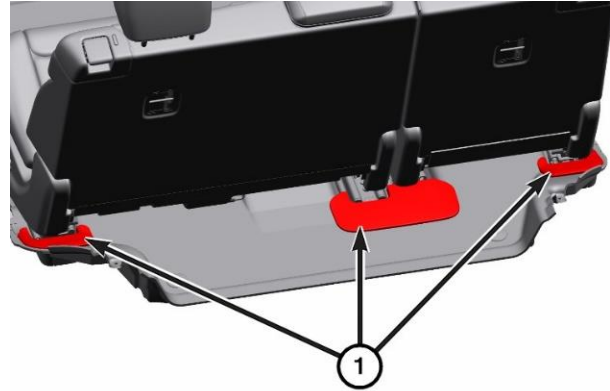

Figure 14 – Seat Track Trim Covers
7. Using a trim tool, remove the second row seat bolt trim covers behind the seat (Figure 14).